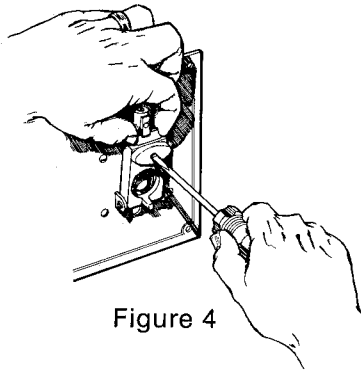

Figure 4
b. When weight swings forward, the trigger should just clear the tip of the claw, as shown in Figure 3. The set screw in front of weight may be loosened to raise or lower trigger, as shown in Figure 4. Set screw must be firmly retightened or the force of repeated falling of the weight may cause the trigger to creep out of adjustment.